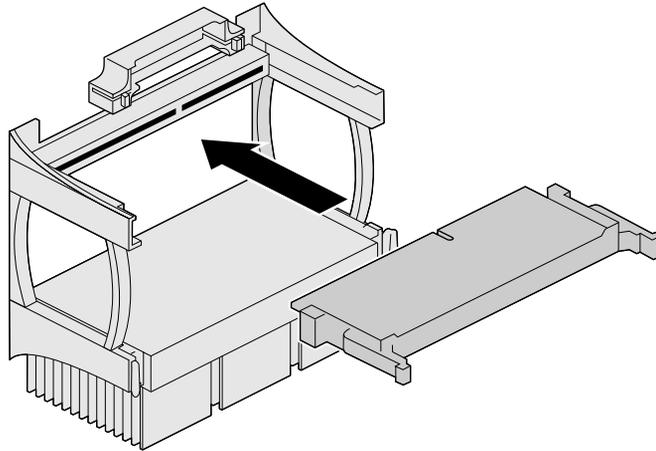

Figure 6-11 Installing a Processor Terminator
9. If you removed a processor from the top slot and are not replacing it, install the processor terminator card, as shown in Figure 6-11.